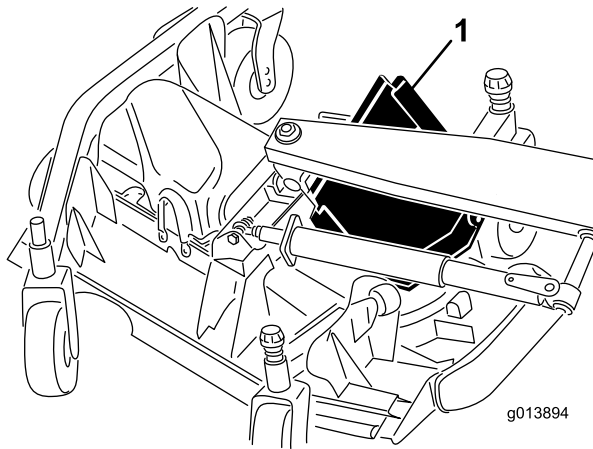

Figure 47
6. Lift the front edge and guide it between the lift arm and the roller to remove it (Figure 47).